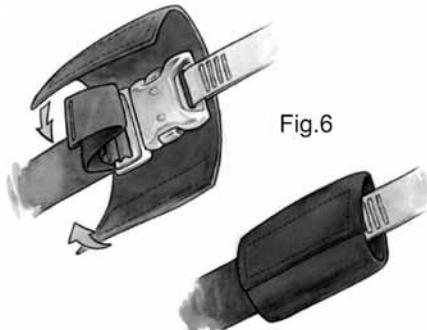

Fig.6
5.4 The surplus of the leg straps automatic buckles' strap has to be put within the protections. (Fig 6)